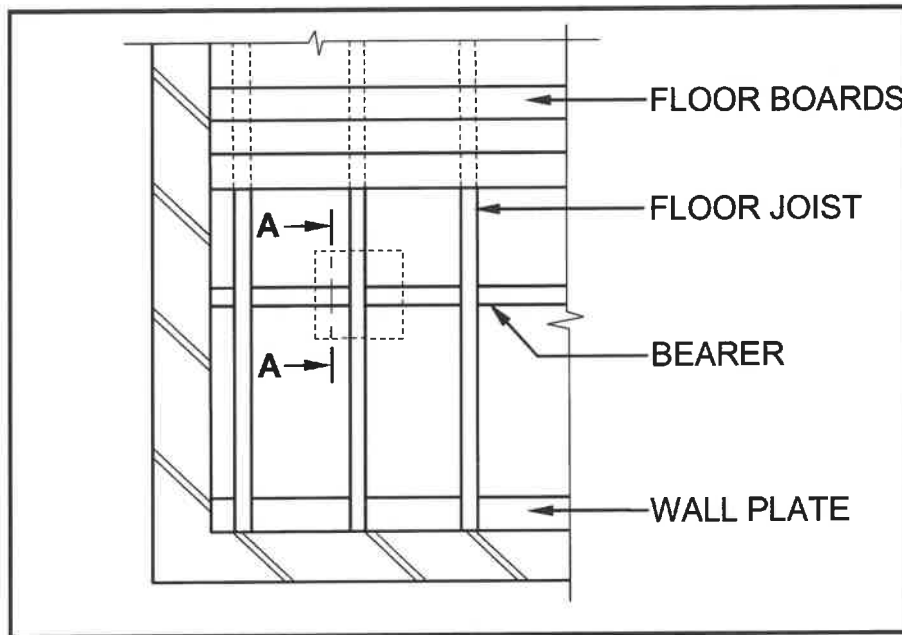

FIGURE 6.7
- 6.7 FIGURE 6.7 shows part of the top view of a ground-level suspended timber floor with section line A-A.